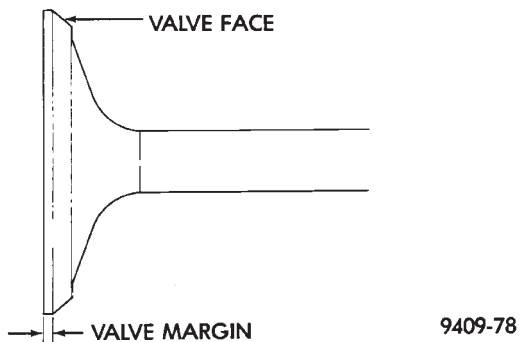

Fig. 47 Intake and Exhaust Valve Refacing
(2) Inspect the remaining margin after the valves are refaced (Fig. 47). Intake valves with less than 0.95 mm (1/32 inch.) margin and Exhaust valves with less than 1.05 mm (3/64 inch) margin should be discarded.